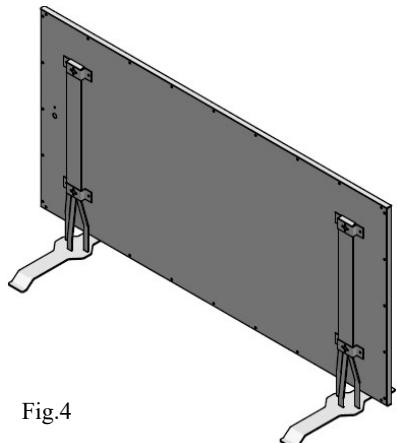

Fig.4
- Mark the holes according to the table, drill out the holes, insert the dowels and drive the screw in to protrude approx. 5 mm. (Fig. 4)
(fig. 4)